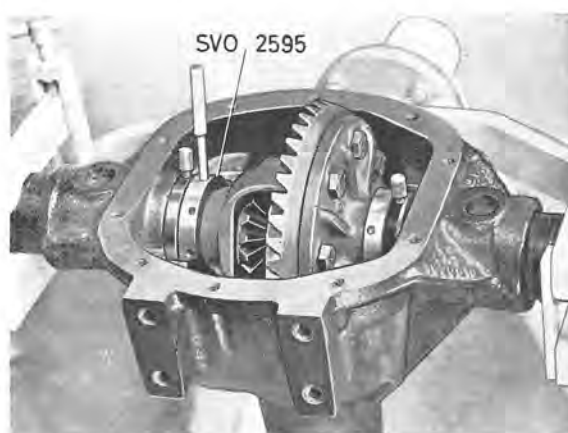

Fig. 4-164. Adjusting rings for differential
1. Lubricate the inside of the adjusting rings 2595 and put them on the differential carrier. The ring with the black-oxidized adjusting ring should be placed on the crown wheel side. Also lubricate the bearing location in the carrier. Place the differential carrier and the adjusting rings in the final drive housing, see Fig. 4-164. Use the dial indicator and adjust in the rings so that the correct tooth flank clearance 0.13—0.20 mm (0.005—